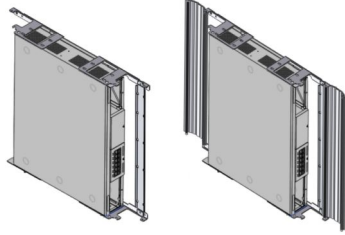

Figure 6: Installing the cable management bar and the doors
8. **Install the cable management bar** (see Figure 6: Installing the cable management bar and the doors on page 5)